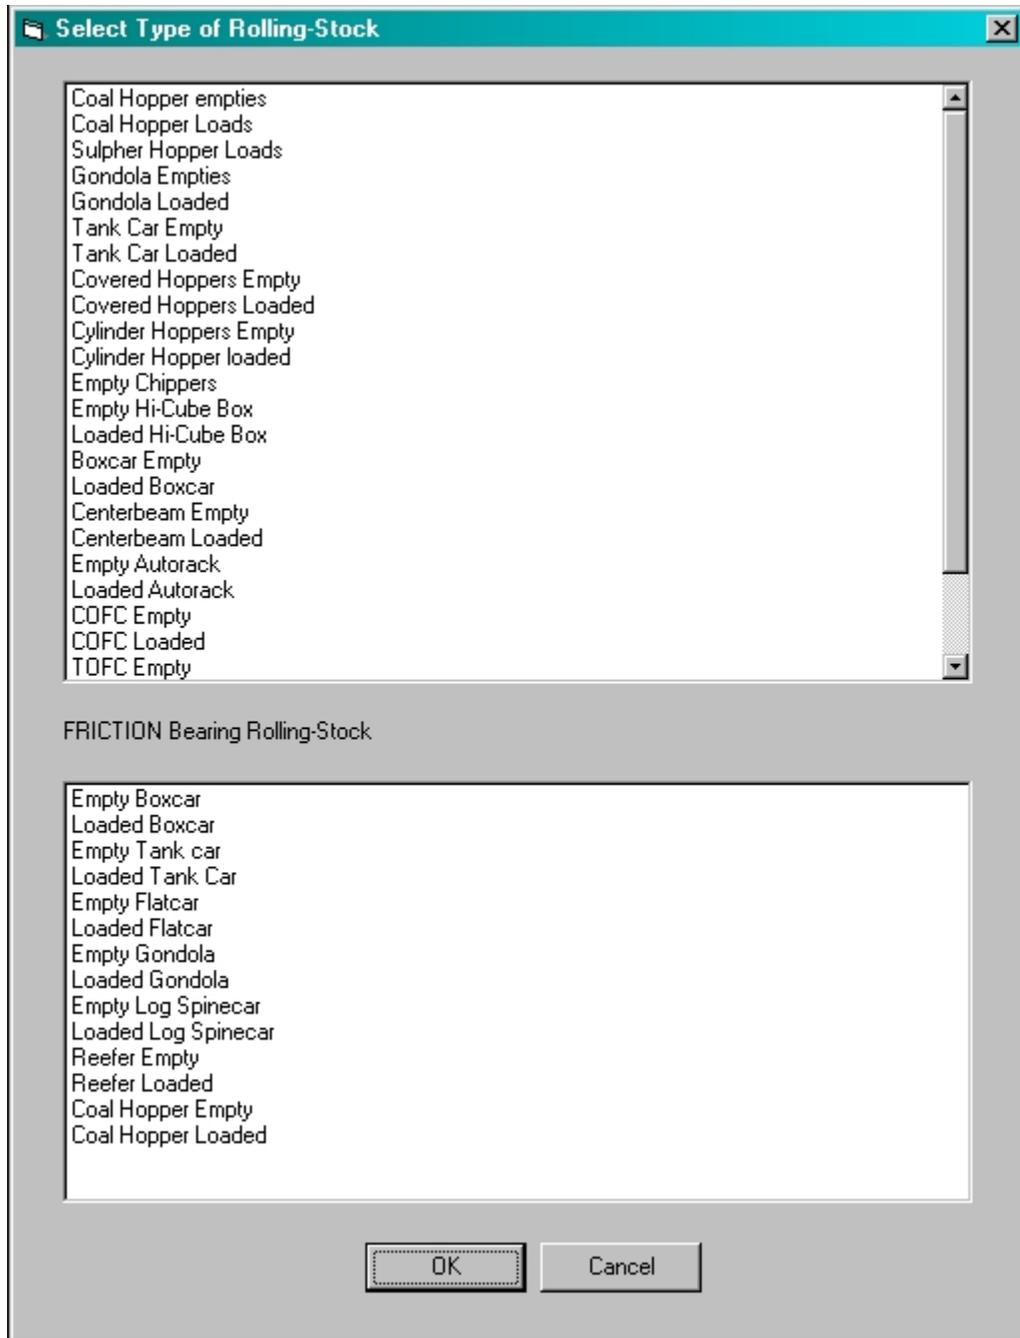

Figure 203
13. Once you have all the items highlighted, left-click the "Update Friction" Button and you will see a new window as shown in Figure 203. As you can see I have already calculated the Friction values for several pieces of rolling stock including Friction Bearing Equipped rolling stock.